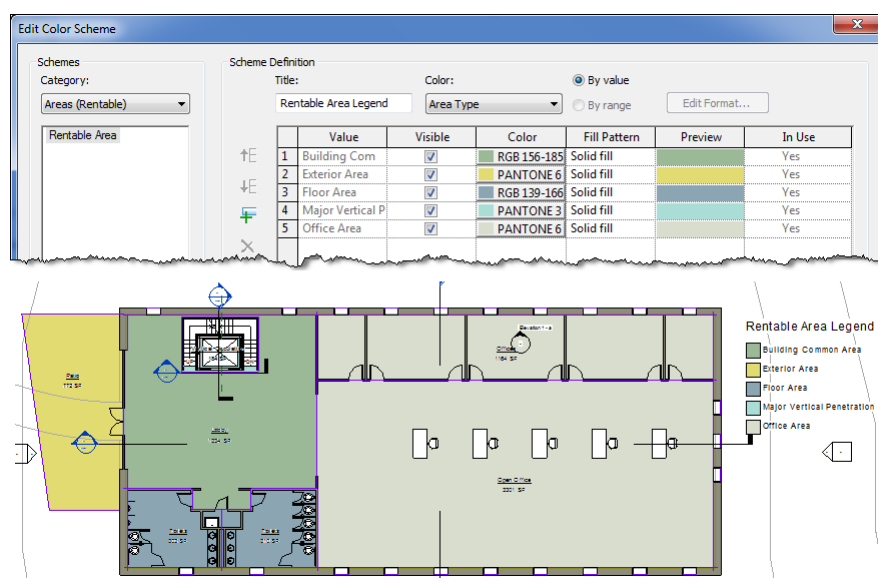

Figure 13 – Create a Color Scheme and apply it to a view
- ✓ To apply the Scheme to a View, edit the View Properties and choose it for the Color Scheme property. There is a Legend button on the ribbon if you wish to add a legend to the view (see Figure 13).